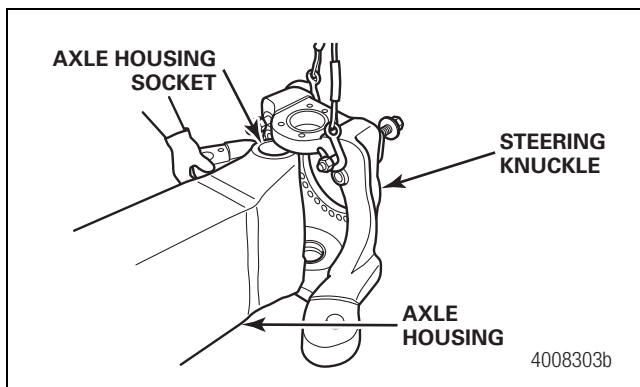

Figure 9.5
7. Use a lifting device to support the knuckle assembly. Guide the knuckle assembly into position and install it onto the axle. Figure 9.5.